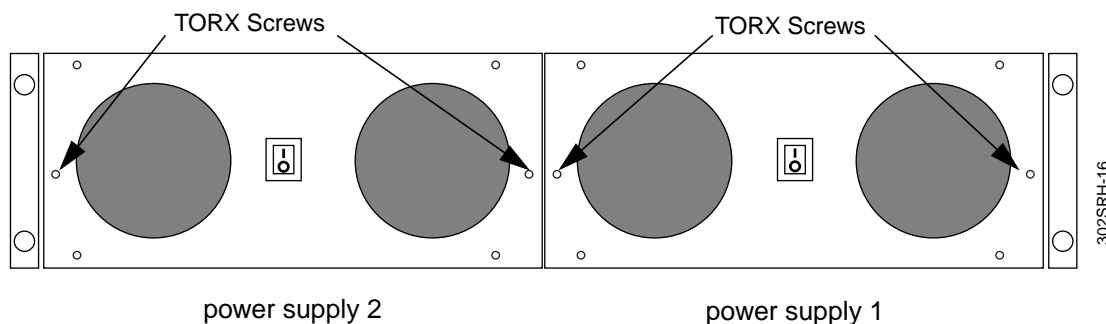

Figure 6-14: Front View: Location of Torx Screws Connecting Power Supplies to Chassis
7. From the front of the cabinet, remove and retain the two #T15 TORX® screws that secure the power supply to the chassis (see Figure 6-14).
3. From the front of the cabinet, slide the new power supply unit into the power supply chassis and align the mounting holes on the power supply chassis with the mounting holes on the power supply (see Figure 6-14).